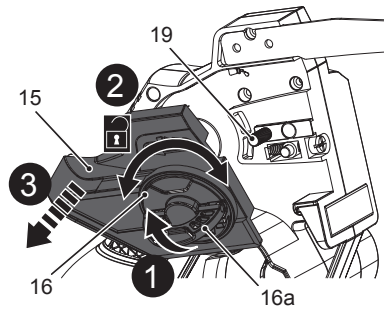
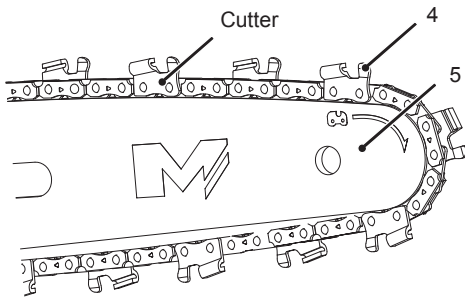

Fig. 1
Fig. 2
2. Lift the ring handle (16a) and unscrew the locking wheel (16) anticlockwise, then remove it together with the sprocket cove (15) from the mounting bolt (19) (Fig. 1, steps 1, 2, 3).
3. Spread the saw chain (4) out with the cutting edges of the chain pointing in the direction of rotation.
Slide the saw chain (4) into the groove around the guide bar (5). Ensure saw chain (4) is installed in correct direction of rotation (Fig. 2).